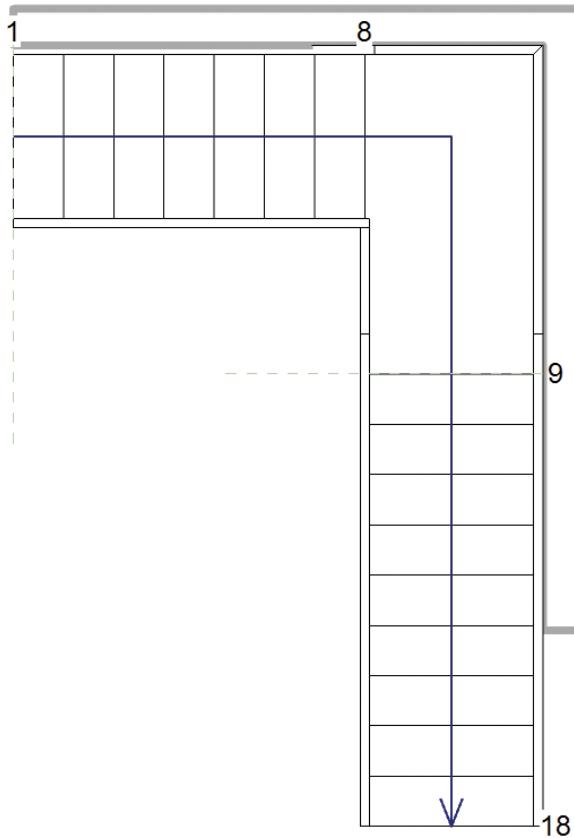

FIGURE 4.9 Second stair along wall
8. Start the second stair run using the same Location Line setting, and click at the endpoint of reference plane 2 where it meets the wall. Move down anywhere past 9'-0" (2750 mm), and click the last point to complete the second run (Figure 4.9).